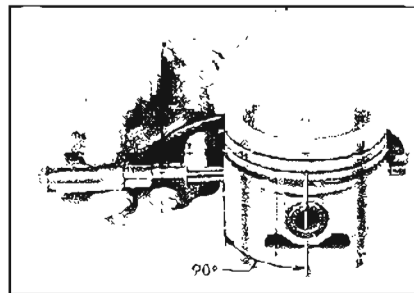

Figure 2-35—Measuring Piston
to the piston pin. When a piston is checked for size, it must be measured with micrometers applied to the skirt at points 90° to the piston pin. See Figure 2-35. The piston should be measured (for fitting purposes) 1/4 below the bottom of the oil ring groove.
Before the honing or reboring operation is started, measure all new pistons with micrometer contacting at points exactly 90 degrees to piston pin (Figure 2-35) then select the smallest piston for the first fitting. The slight variation usually found between pistons in a set may provide for correction in case the first piston is fitted too free.
3. Measure the piston to be installed. See Figure 2-35. The piston must be measured at right angles to the piston pin 1/4" below the oil ring groove. The piston must be between .001" and .0015" smaller than the cylinder bore.